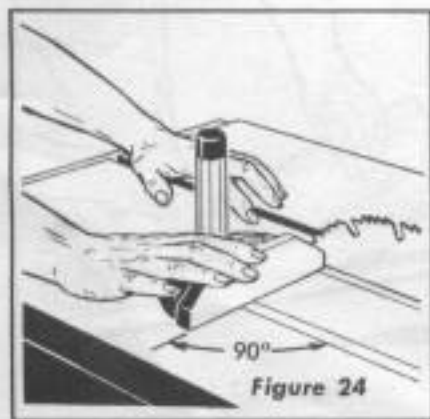

Figure 24
- Square crosscutting is done with the miter gauge set at "0" (at a right angle to the slide and groove). (See figure 24.) The splitter need not be removed, but it is not needed for this operation.